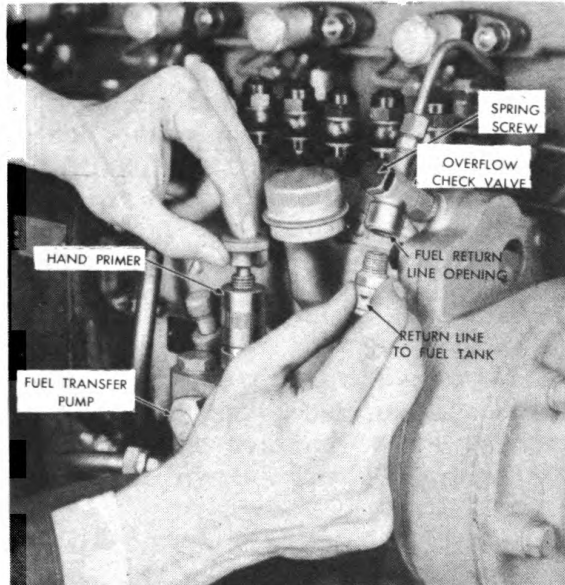

Figure 322. Fuel Return Connection.
7. Loosen the spring screw of the fuel injection pump to release the overflow check valve spring tension so pump housing can be vented. Remove the fuel return connection at the fuel pump overflow. See Figure 322. Work the hand plunger on the fuel transfer pump until the air bubbles cease coming out of the loosened connections and solid fuel appears at every stroke of the pump. **NOTE:** The hand primer must be unscrewed (turned to the left) before it can be operated. Replace the fuel return connections and screw down the hand plunger to the locked position. The engine is now ready for starting.